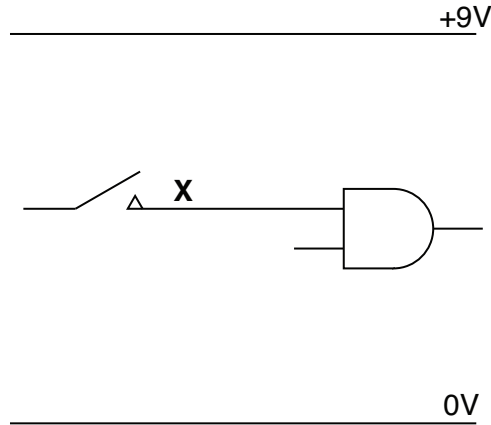

Fig. 16
- (a) (i) Complete Fig. 16 to show a switch arrangement that will produce a logic 1 signal at point **X** when the switch is pressed and a logic 0 signal when it is released.